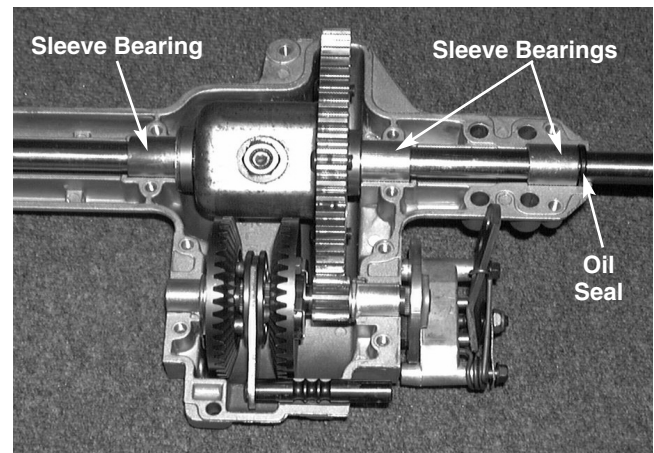

FIGURE 6.
- 25). Place the differential assembly into the lower transmission housing. See figure 6.